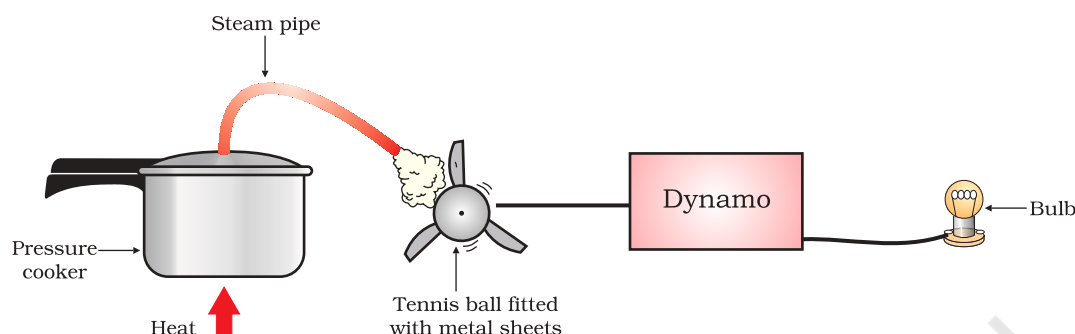

Figure 14.2 A model to demonstrate the process of thermoelectric production
- Direct a jet of water or steam produced in a pressure cooker at the fins (Fig. 14.2). What do you observe?